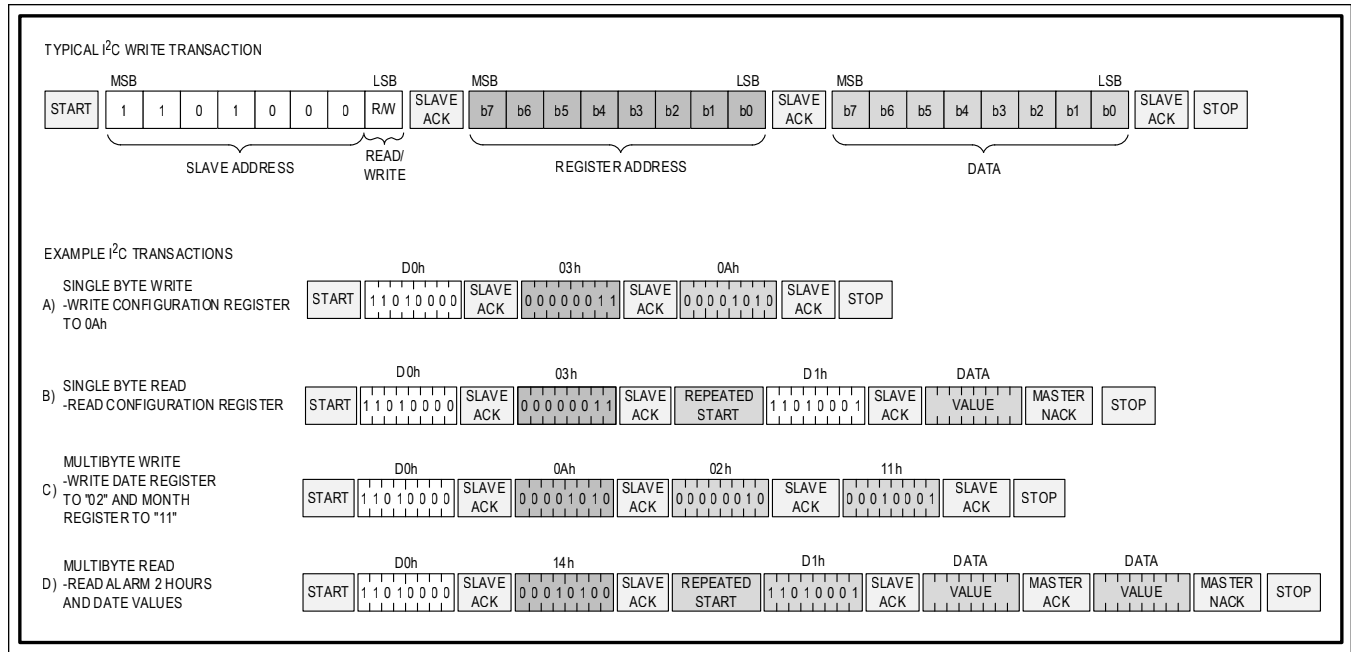

Figure 4. I2C Transactions
See Figure 4 for an I2C communication example.
**Manipulating the Address Counter for Reads:** A dummy write cycle can be used to force the address counter to a particular value. To do this the master generates a START condition, writes the slave address byte (R/W = 0), writes the memory address where it desires to read, generates a repeated START condition, writes the slave address byte (R/W = 1), reads data with ACK or NACK as applicable, and generates a STOP condition. See Figure 4 for a read example using the repeated START condition to specify the starting memory location.